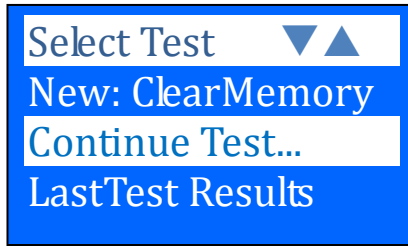

Figure 49
3. It will run through a self-test and when completed it displays the Main Menu as shown: (Fig. 49)